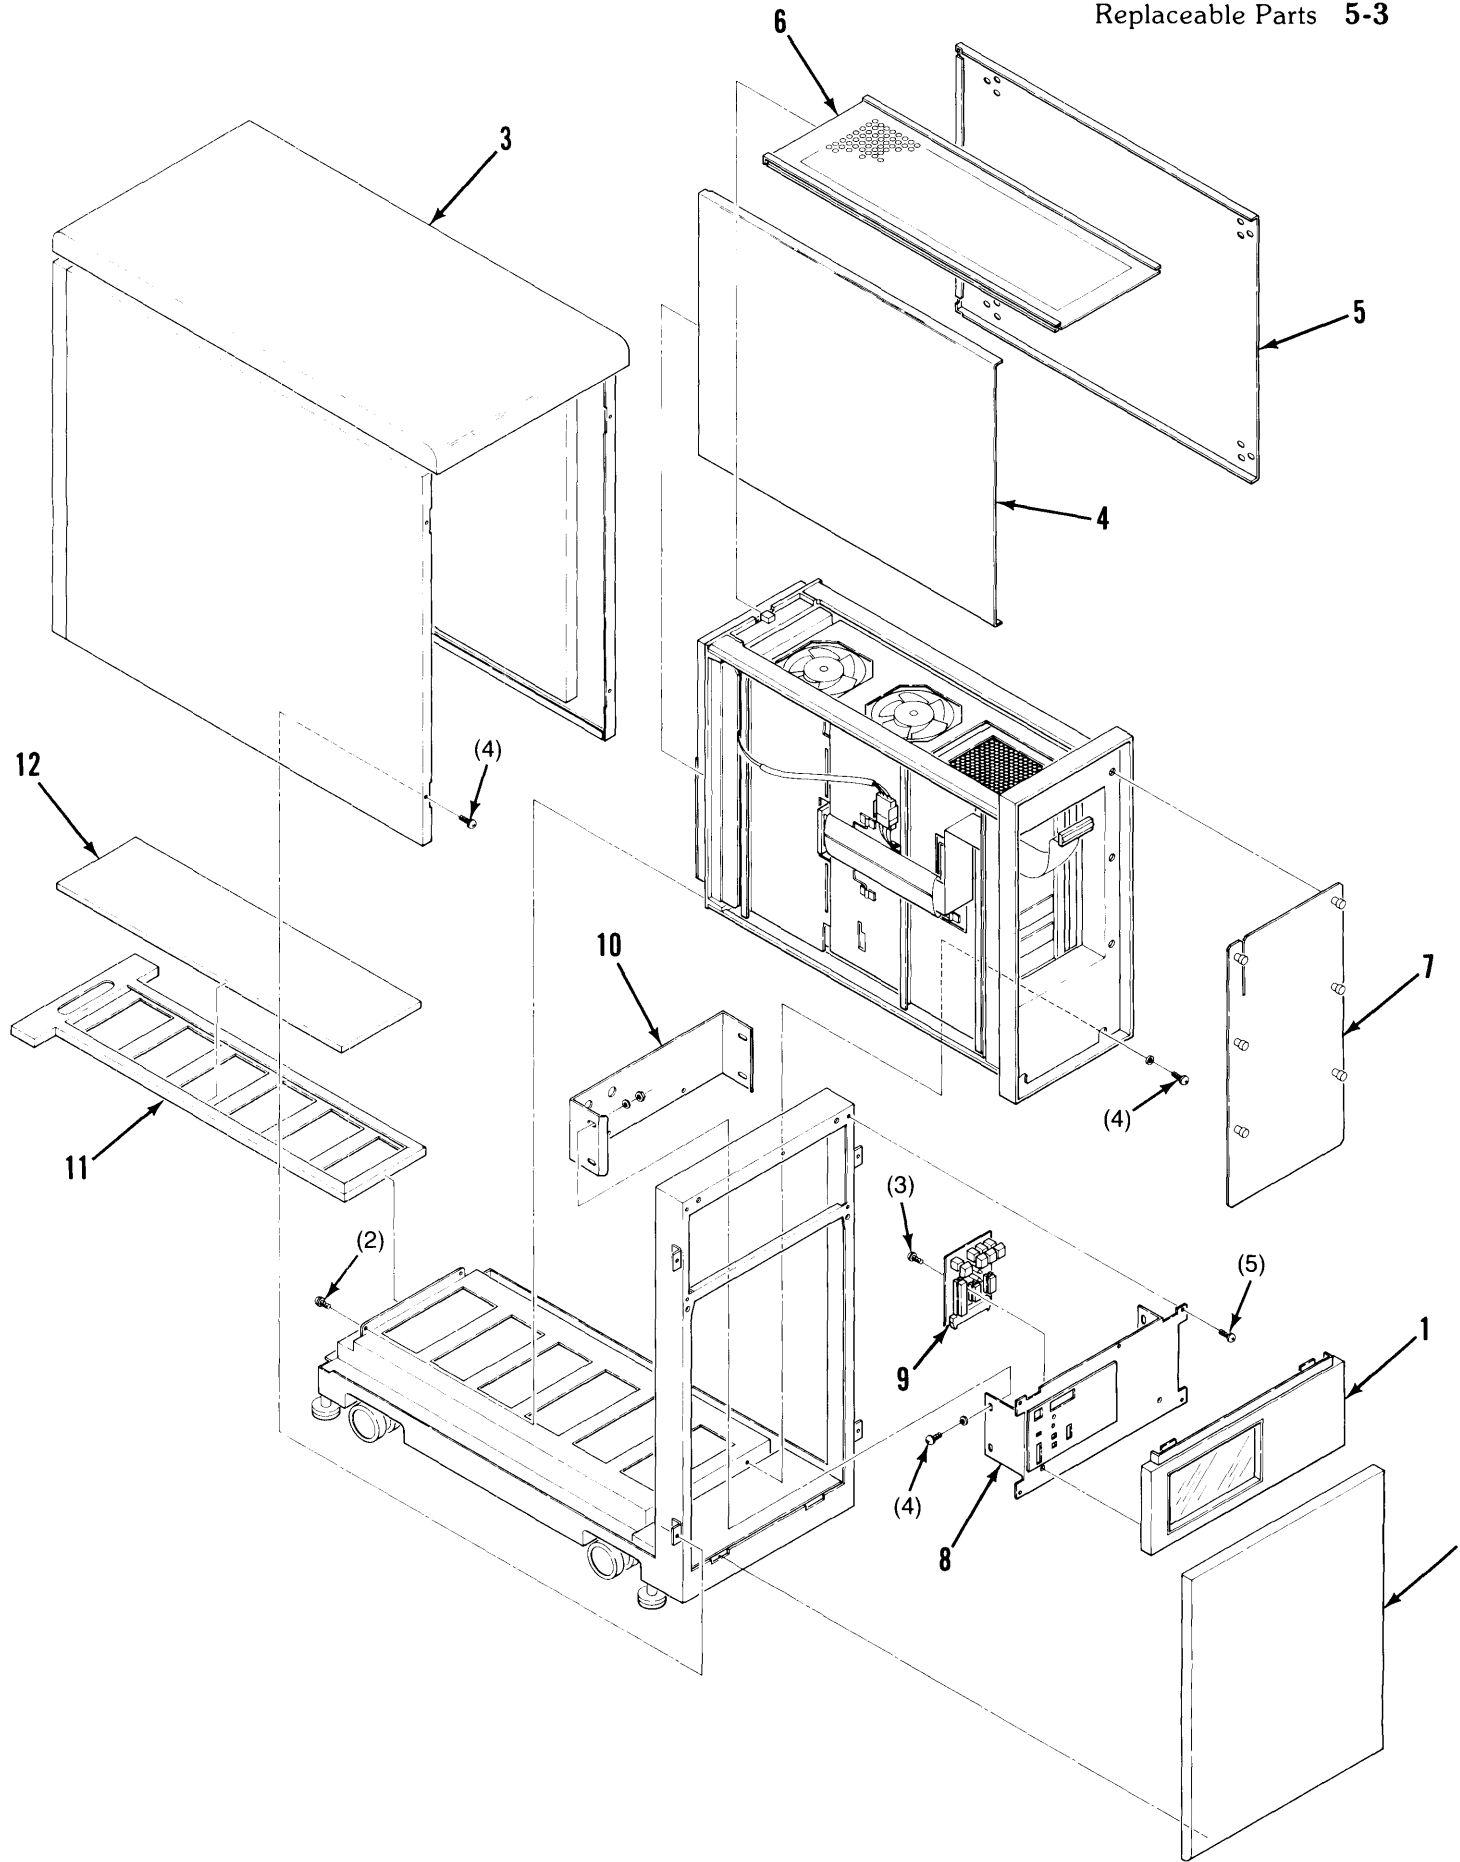

Figure 5-1. Exploded View #1
Figures 5-1 and 5-2 show all the computer modules and their attaching parts. Each of the figures has an associated parts list. The parts list provides the HP part number, description, and quantity of each part identified on the figure with an index number.
**Table 5-3. Parts List (Figure 5-1)**